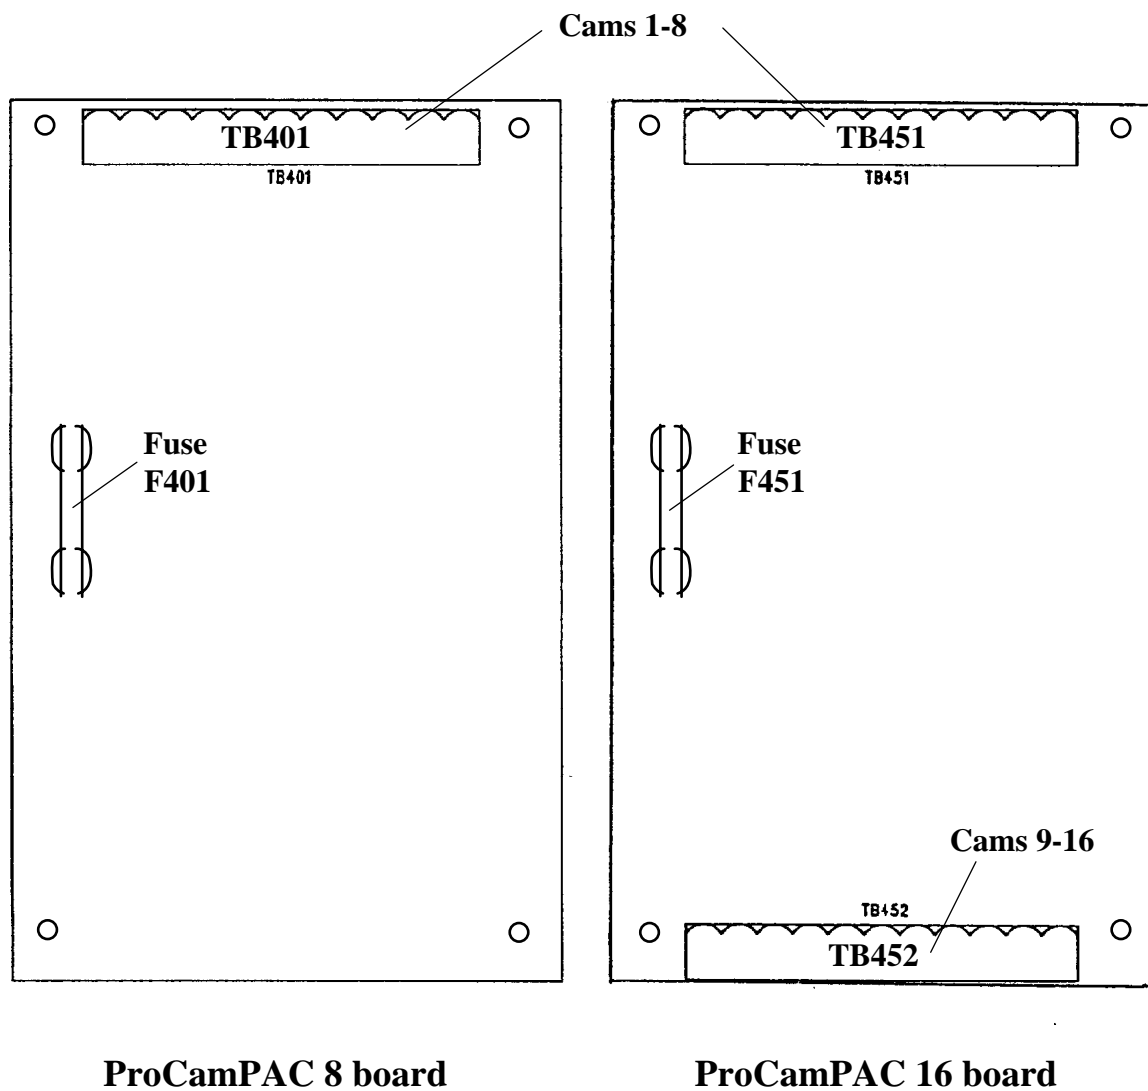

Figure 2-5d. ProCamPAC, DiProPAC, & Firmware boards superimposed on SmartPAC
The ProCamPAC and DiProPAC boards are NOT interchangeable! Therefore, it is important that you install them correctly. The 8 and 16 channel ProCamPAC boards are interchangeable; and the 8 and 16 sensor DiProPAC boards are also interchangeable. SmartPAC will recognize whether the board is 8 or 16 configuration. See Figure 2-5d.
- If you are adding a new board, then locate where on the main SmartPAC processor board it should be placed (Figure 2-5d). Then go to step 4.
- a. Look inside SmartPAC, and locate the board that you wish to replace. Figure 2-5d illustrates ProCamPAC and DiProPAC superimposed on the main processor board.
4. If installing a new board (or boards): Complete these steps for each board you are adding. Refer to Figure 2-5d for the location of the board to be installed.